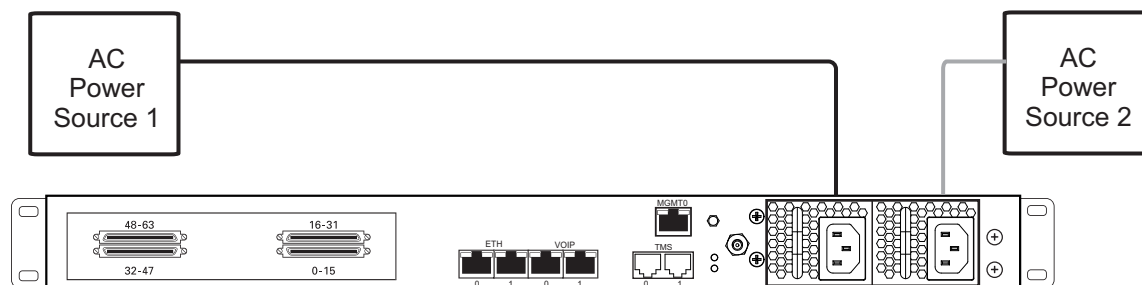

Figure 4.13 AC Power Connection
1. Connect an AC power cable between the AC connector of the 7800 Telecom Unit and an AC supply. See figure 4.13 on page 39.